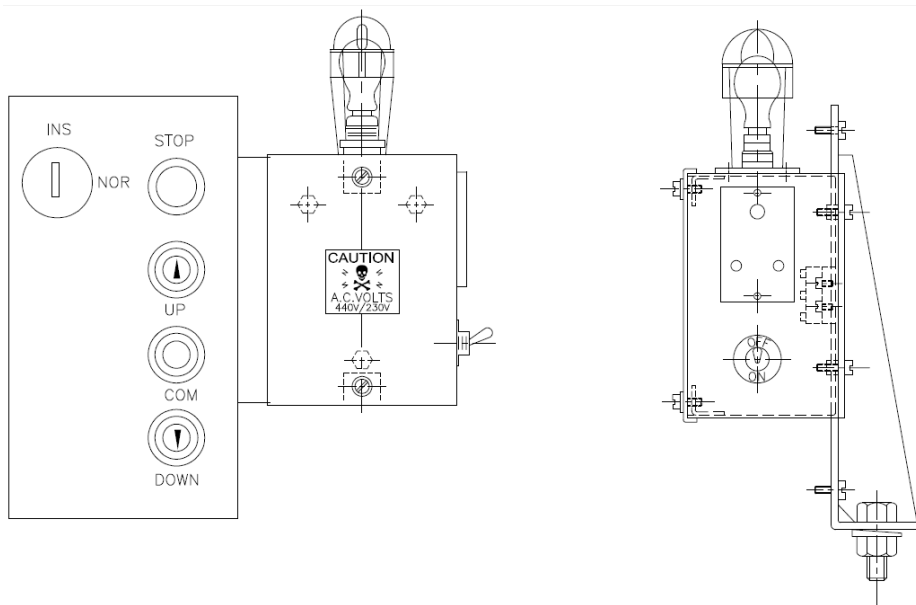

FIG. 3 SKETCH SHOWING TYPICAL TOP OF CAR INSPECTION CONTROL BOX
9.3.1 ‘Top of lift car Inspection Control’ shall be provided on top of each lift car, easily accessible from landing, for use by persons working thereon (*see* Fig. 3). It shall, at minimum, have: